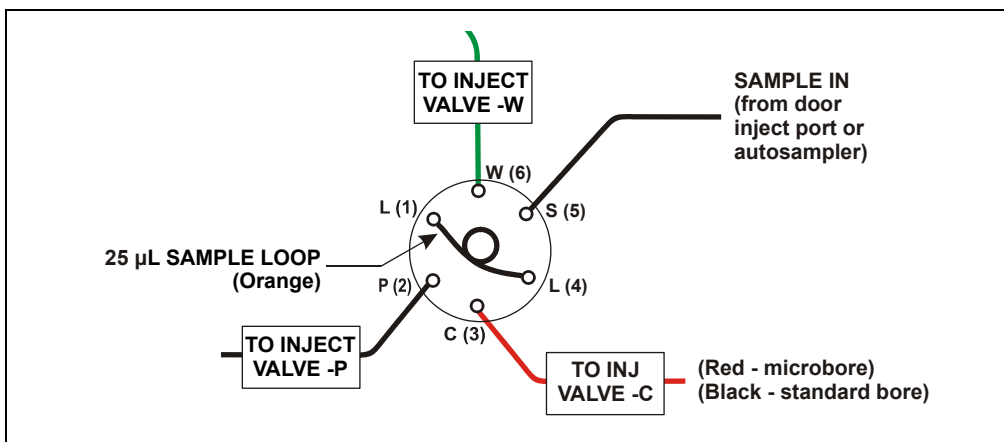

Figure 2-57. Injection Valve Plumbing (6-Port Valve)
Figure 2-57 shows the injection valve connections for the 6-port valve. The injection valve is plumbed at the factory with all tubing and fittings for connection to the pump, sample loading port, column, and waste. A 25  $\mu\text{L}$  PEEK sample loop (P/N 042857) is installed between ports L (1) and L (4).